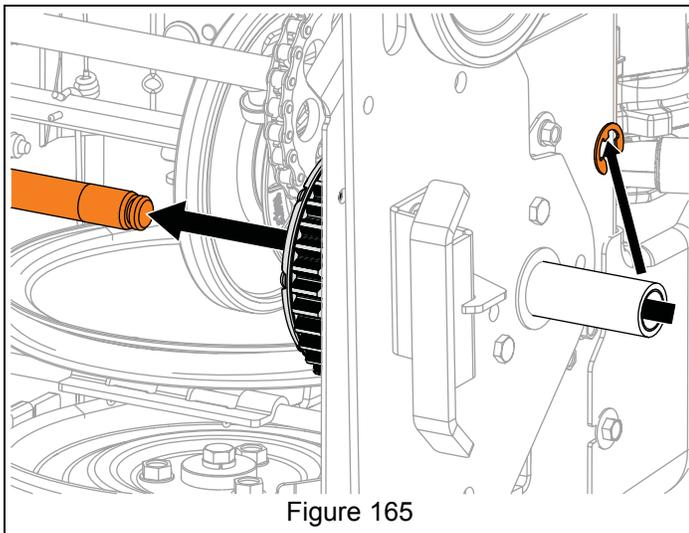

Figure 165
See Figure 165.
6. Remove E-ring from axle end and remove axle from differential, but DO NOT completely remove axle from unit. See Figure 165.